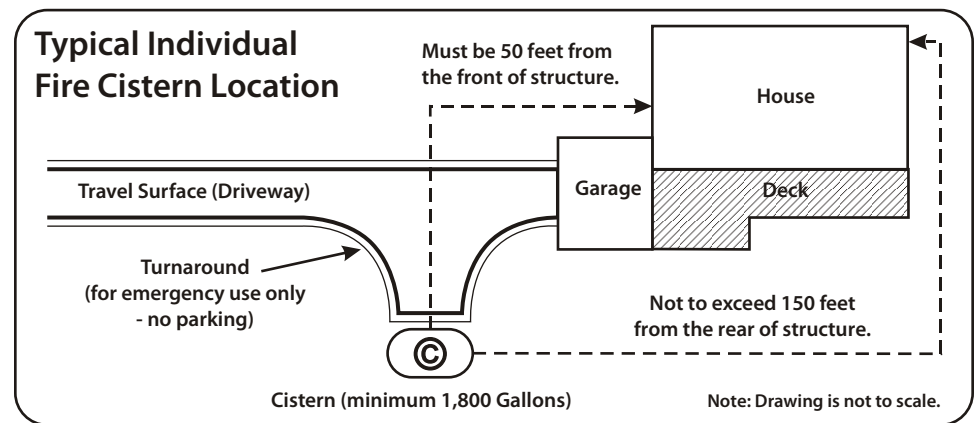

Figure 1: Typical Individual Fire Cistern Location.
- It must be located at least **50 feet from the front** of the structure, and not less than **150 feet from the rear** of the structure. It should be located next to an emergency turn-around, or where the driveway meets the road, whichever is closer (see Figure 1).